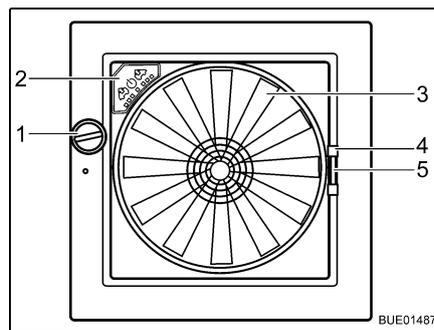

Fig. 49 Omni-Vent skylight
*Opening:* ■ Turn the knob (Fig. 49,1) until the desired opening angle is reached.
*Closing:* ■ Turn the knob (Fig. 49,1) until the skylight is fully closed.
*Closing:* ■ Using the handle (Fig. 49,4) pull the insect screen across to the other side of the frame.
*Closing:* ■ Press together the handle (Fig. 49,5) of the shade.
- Fan** If the skylight is open, the interior can be vented and aerated with the 6-speed fan (Fig. 49,3). The fan is operated via the operating panel (Fig. 49,2).